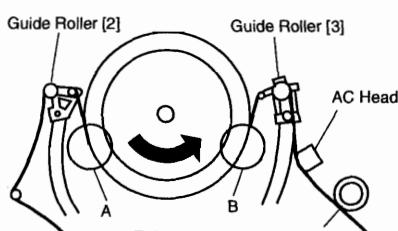
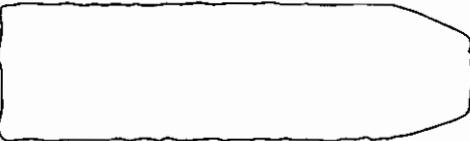
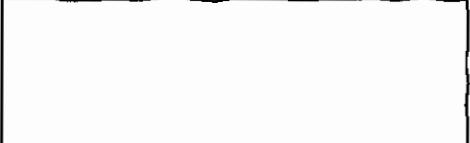

Fig. M3
Fig. M8
Fig. M9
1. Play back a blank cassette tape and check to see that the tape runs without creasing at Guide Rollers [2] and [3], and at points A and B on the lead surface. (Refer to Fig M3 and M4.)
2. If creasing is apparent, align the height of the guide rollers by turning the top of Guide Rollers [2] and [3] with a Guide Roller Adj. Screwdriver. (Refer to Fig. M3 and M5.)
3. Check to see that the tape runs without creasing at Take-up Guide Post [4] or without snaking between Guide Roller [3] and AC Head. (Fig. M3 and M5)
2. Play back the Gray Scale on the Alignment Tape (FL8NW). Set the Tracking Control Circuit to the center position by pressing the CH UP and then the PLAY button on the VCR. Adjust the height of Guide Rollers [2] and [3] (Fig. M3, Page 2-3-3) watching the oscilloscope display so that the envelope becomes as flat as possible. To do this adjustment, turn the top of the Guide Roller with the Guide Roller Adj. Screwdriver.
3. If the envelope is as shown in Fig. M7, adjust the height of Guide Roller [2] (Refer to Fig. M3) so that the waveform looks like the one shown in Fig. M9.
4. If the envelope is as shown in Fig. M8, adjust the height of Guide Roller [3] (Refer to Fig. M3) so that the waveform looks like the one shown in Fig. M9.
5. When Guide Rollers [2] and [3] (Refer to Fig. M3) are aligned properly, there is no envelope drop either at the beginning or end of track as shown in Fig. M9.
Note: Upon completion of the adjustment of Guide Rollers [2] and [3] (Refer to Fig. M3), check the X Value by pushing the CH UP or DOWN buttons alternately, to check the symmetry of the envelope. Check the number of pushes to ensure center position. The number of pushes UP to achieve 1/2 level of envelope should match the number of pushes DOWN from center. If required, redo the "X Value Alignment."